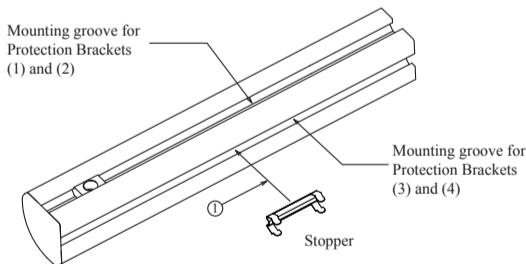

Fig. 9. Mounting a Stopper
Mount the stopper nut to the protection support in advance to secure protection bracket (3) or (4). Insert the stopper into a groove that is different from the one to which protection brackets (1) and (2) are secured, and then mount the nut (for stopper). (See Fig. 9 and 10.)